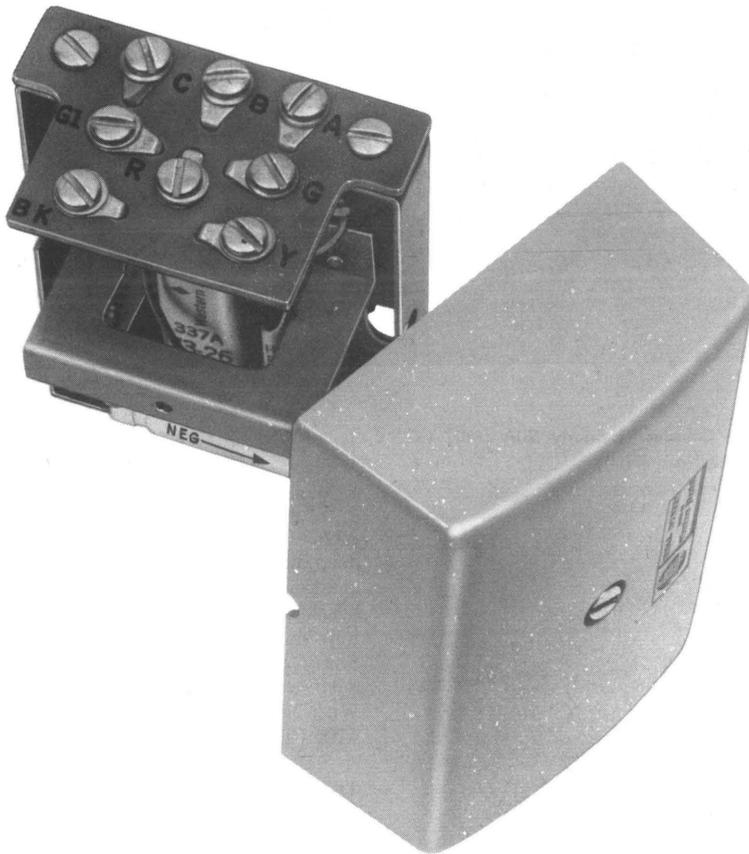

Fig. 21—23A Coupler
**2.21 23A Coupler**—Approximately 4 inches long, 2-3/4 inches wide, and 1-7/8 inches deep and is used to provide an interface between customer-provided dc dial pulse dialers (not to be used with TOUCH-TONE® dialers and CO or PBX station line). (See Fig. 21.)